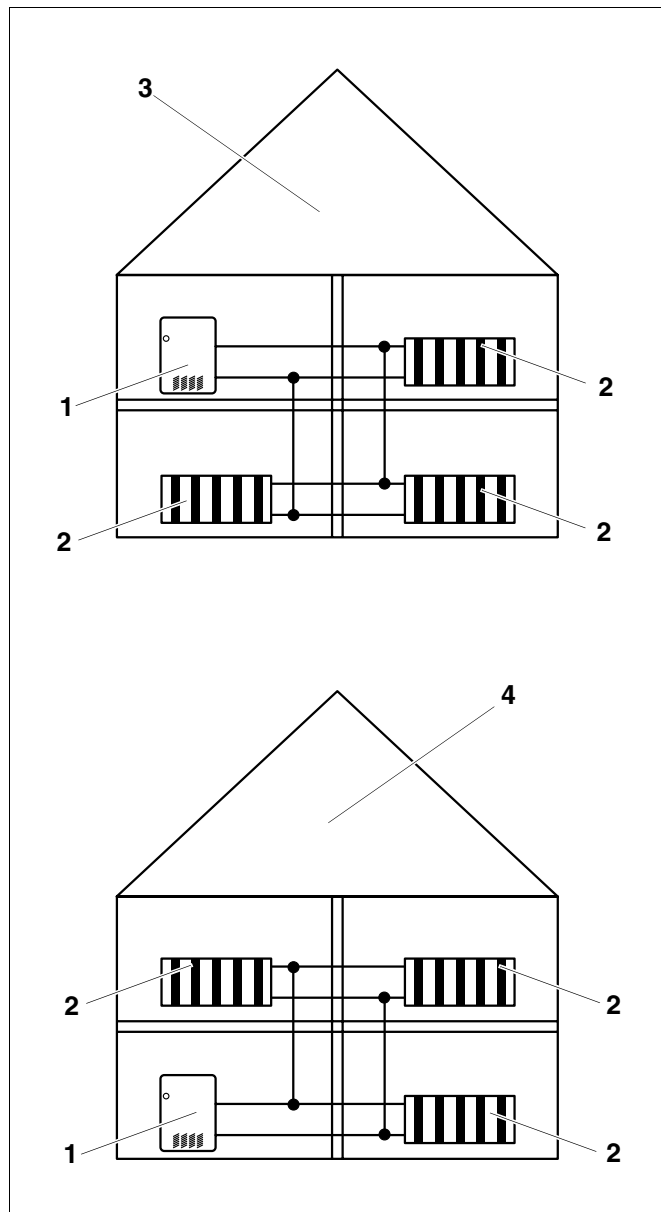

Fig. 10 Low-water alarm
- Note that a boiler installed above the level of the heating system must be fitted with a low-water cutoff. The low-water cutoff must be installed during installation of the boiler (→ Fig. 10).